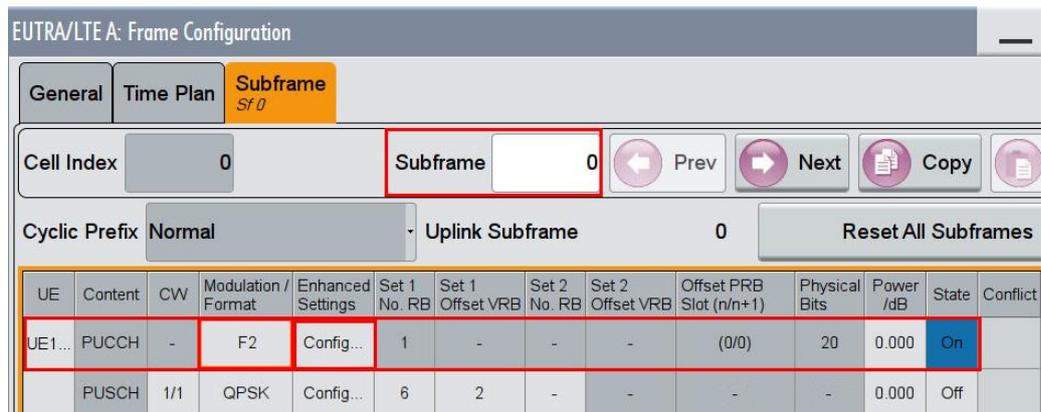

Fig. 3-167: PUCCH with format F2 in subframe 0
9. Set for the PUCCH the **Format** to **F2** and the state **On** (Fig. 3-167).